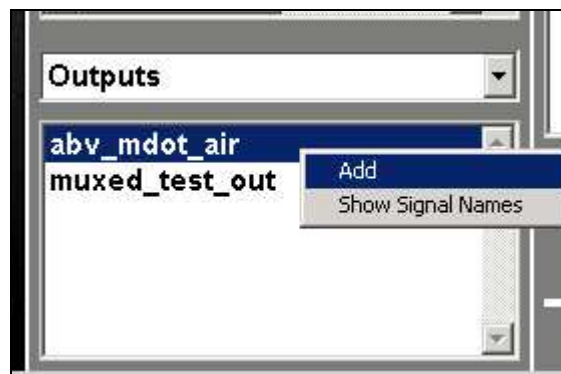
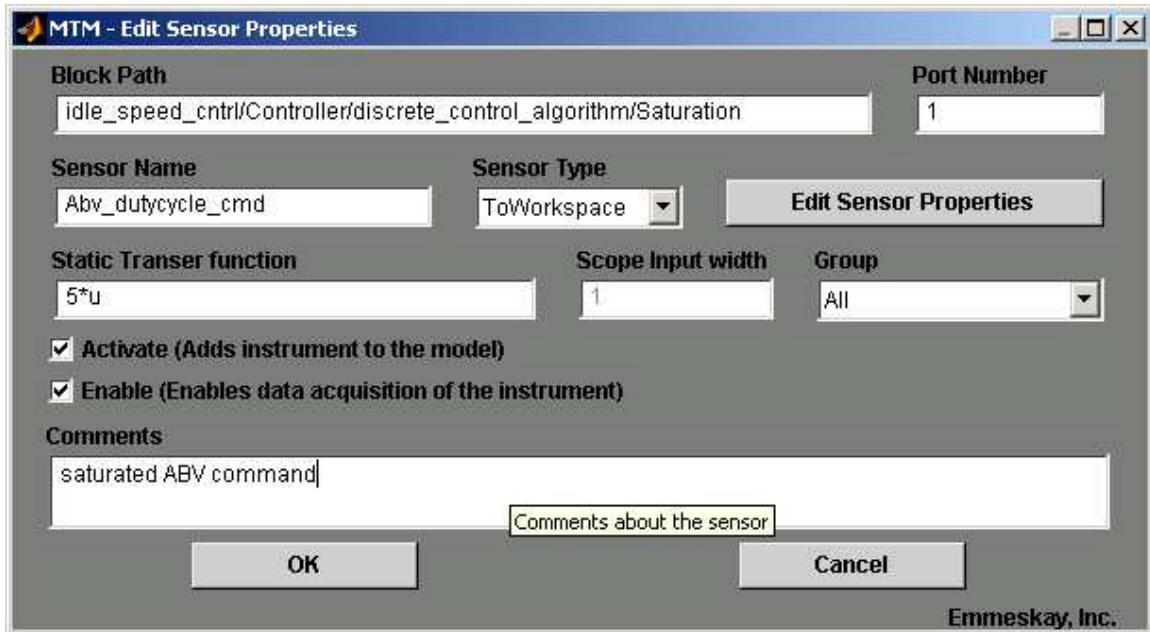
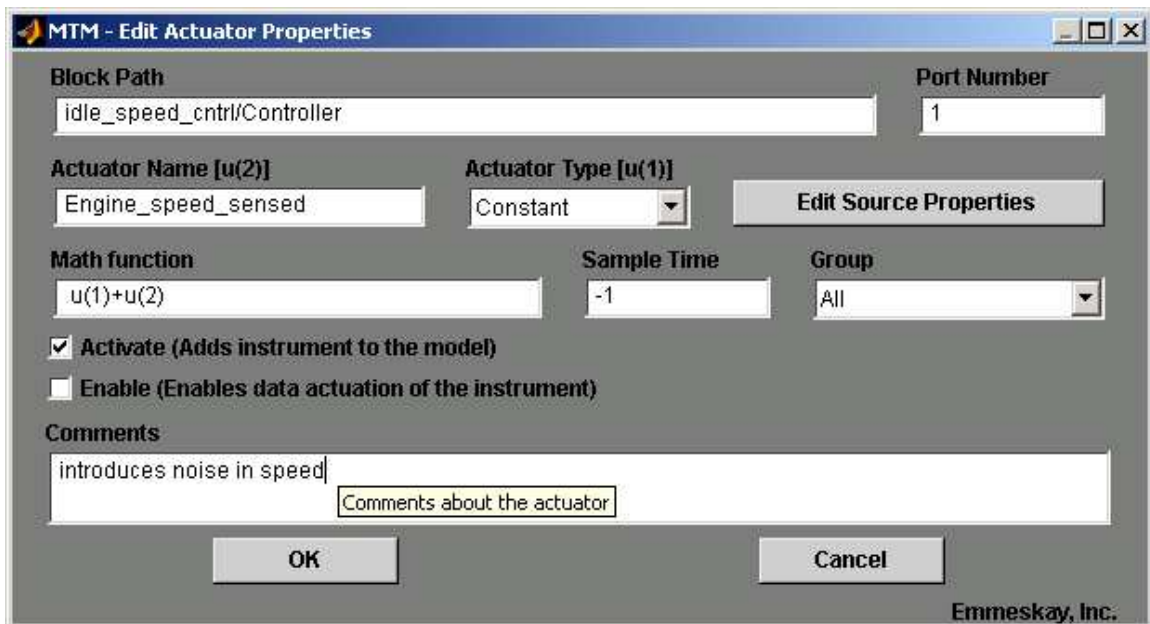
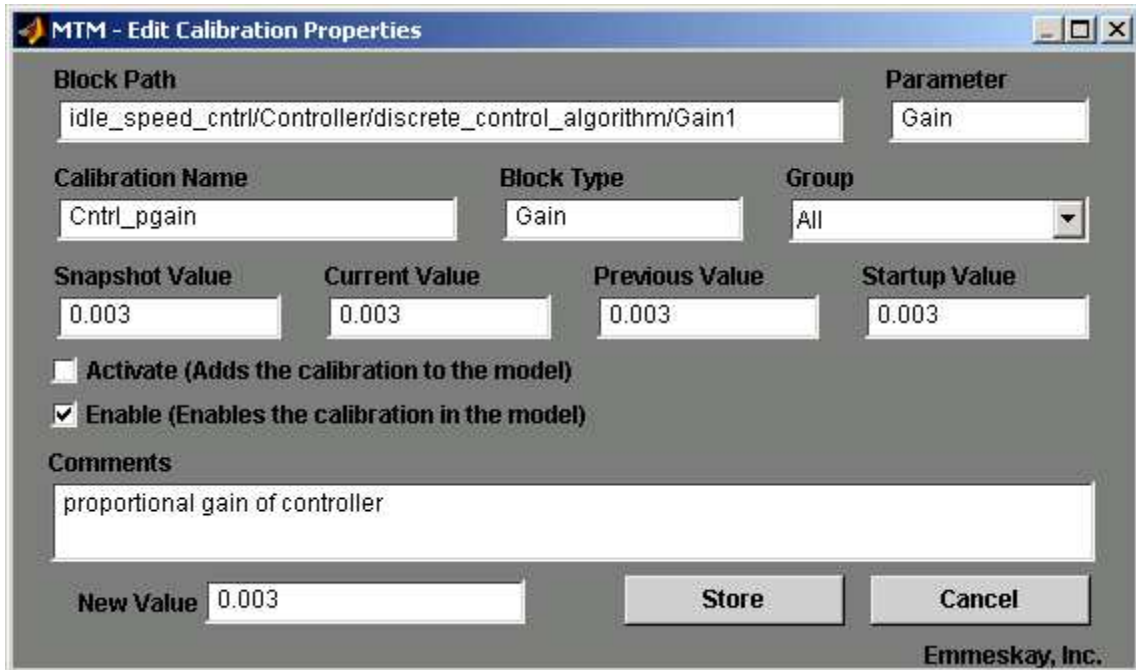

Figure 7: Context Menu of Outputs (Inputs & Parameters) List Box
Figure 16: MTM - Edit Sensor Properties GUI
Figure 17: MTM - Edit Actuator Properties GUI
Figure 18: MTM - Edit Calibration Properties GUI
The outputs of the block selected in the System Tree are displayed in this dialog. If the signals originating on those ports have names (names on the connecting wires), then those names are displayed in this window. Otherwise, a generic name “output<n>“ is used where n is the order number of the output signal on the block. Sometimes, signal names that are inherited from their respective sources are not displayed. A probable reason for this could be that the model has not been updated to display the inherited name on the block output signals. Update the model (pick Update Diagram from the Edit menu in the Simulink® model window and then update the System Tree by pressing “Enter” in the Model Name window) to see all the names. You have the option to view port names on Subsystems. The default option always shows the signal names. To view port names on a particular subsystem, select that subsystem in System Tree and then right-click in Outputs dialog and pick “Show Port Names” (see Figure 7). Port names can appear as default in the Outputs dialog for all Subsystems in the current MTM session by picking “Show Port Names for Subsystem” under Options pull-down menu. Any “newline” or “carriage return” in the signal names (or port names) are automatically replaced by double underscore (“__”) symbols in the Outputs dialog. This is done to avoid potential problems with instrument names in the tool (see below).
1. Right click on the desired input/output/parameter in the Inputs/Outputs/Parameter list and select Add (see Figure 7). This brings the corresponding Edit Properties GUI (see Figure 16, Figure 17, & Figure 18).
As mentioned above sensor can be – To WorkSpace, Scope, Display or Custom-sensor. All the sensors except the custom-sensor have all the usual properties afforded in Simulink® and these properties can be accessed and edited by clicking on the Edit Sensor Properties button in the MTM – Edit Sensor Properties GUI. The various fields in the MTM - Edit Sensor Properties GUI (see Figure 16) are as follows:
As mentioned above actuator can be – any of the standard Simulink® sources or custom actuator. Properties of the standard Simulink® sources used in the actuators can be accessed and edited by clicking on the Edit Source Properties button in the MTM – Edit Actuator Properties GUI. The various fields in the MTM - Edit Actuator Properties GUI (see Figure 17) are as follows:
As mentioned above Calibration involves change of parameter and most of the parameters associated with standard Simulink® blocks are supported in MTM. Using the MTM – Edit Calibration Properties GUI users can store new value for parameters and this new value will be applied to the model when “Instrument model” button in the main MTM GUI is pressed. Various fields in the MTM – Edit Calibration Properties GUI (see Figure 18) are as follows: